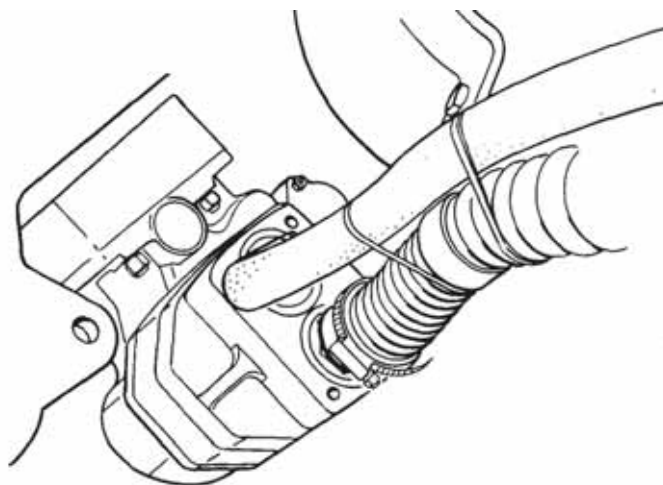

Figure 4 Hydraulic Pump Hoses
- Remove the hydraulic hoses (Figure 4), and then seal the hoses and the ports in the hydraulic pump with plastic plugs.